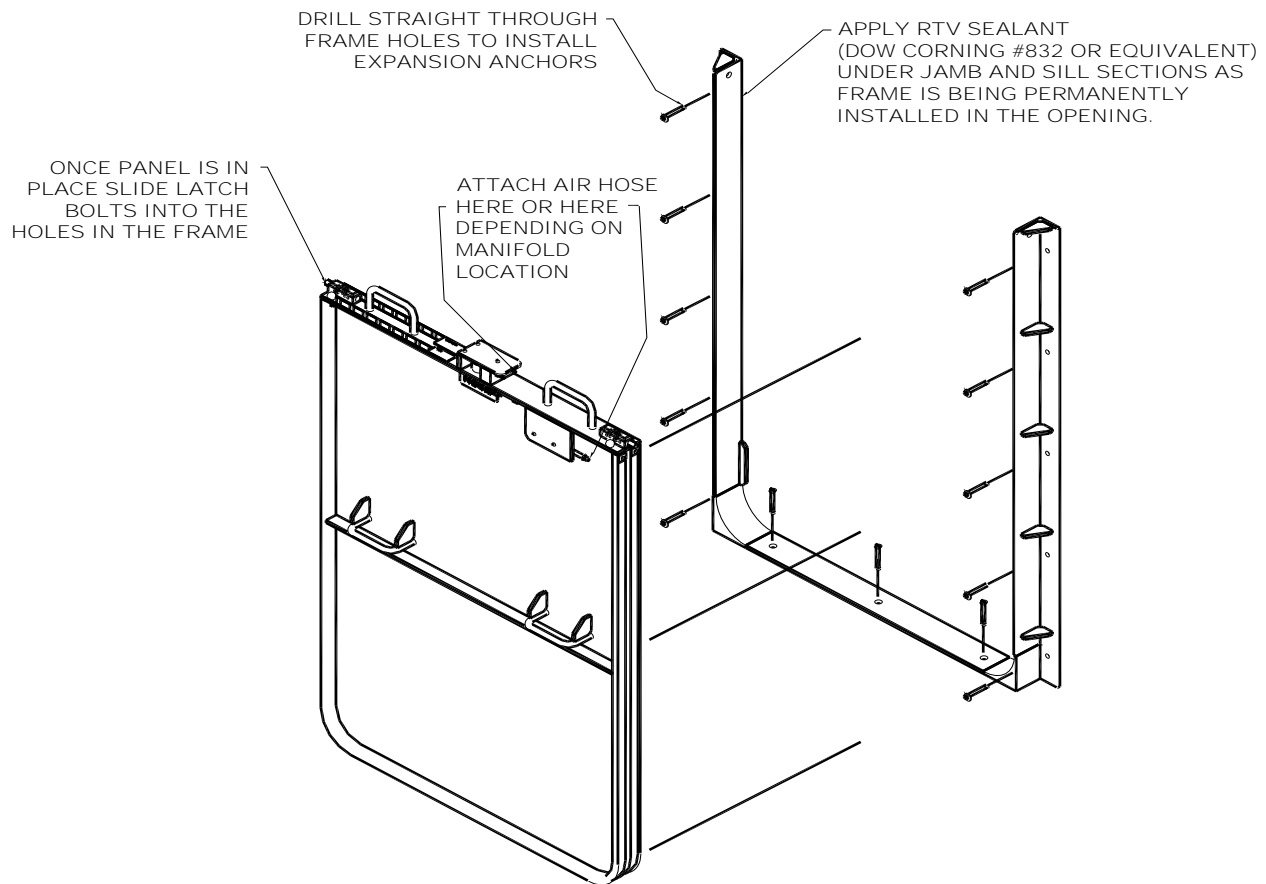

Figure 1. Face Mount Installation Diagram
- 6) **MOUNTING WITH EXPANSION ANCHORS:** If the frame is to be mounted to the front of the opening with expansion anchors from **Table 1**, leave the panel installed in the frame with the shipping shims intact to preserve the gapping. See Figure 1. If the frame is to be installed inside the jambs of the opening, remove the panel from the frame to gain access to the anchor holes. In both cases, use the frame as a template and drill through the holes in the frame for the expansion anchors. Refer to the appropriate assembly print to determine which anchor is used in the opening and cross reference **Table 1** in this manual to determine the size of the hole required to install the anchor.